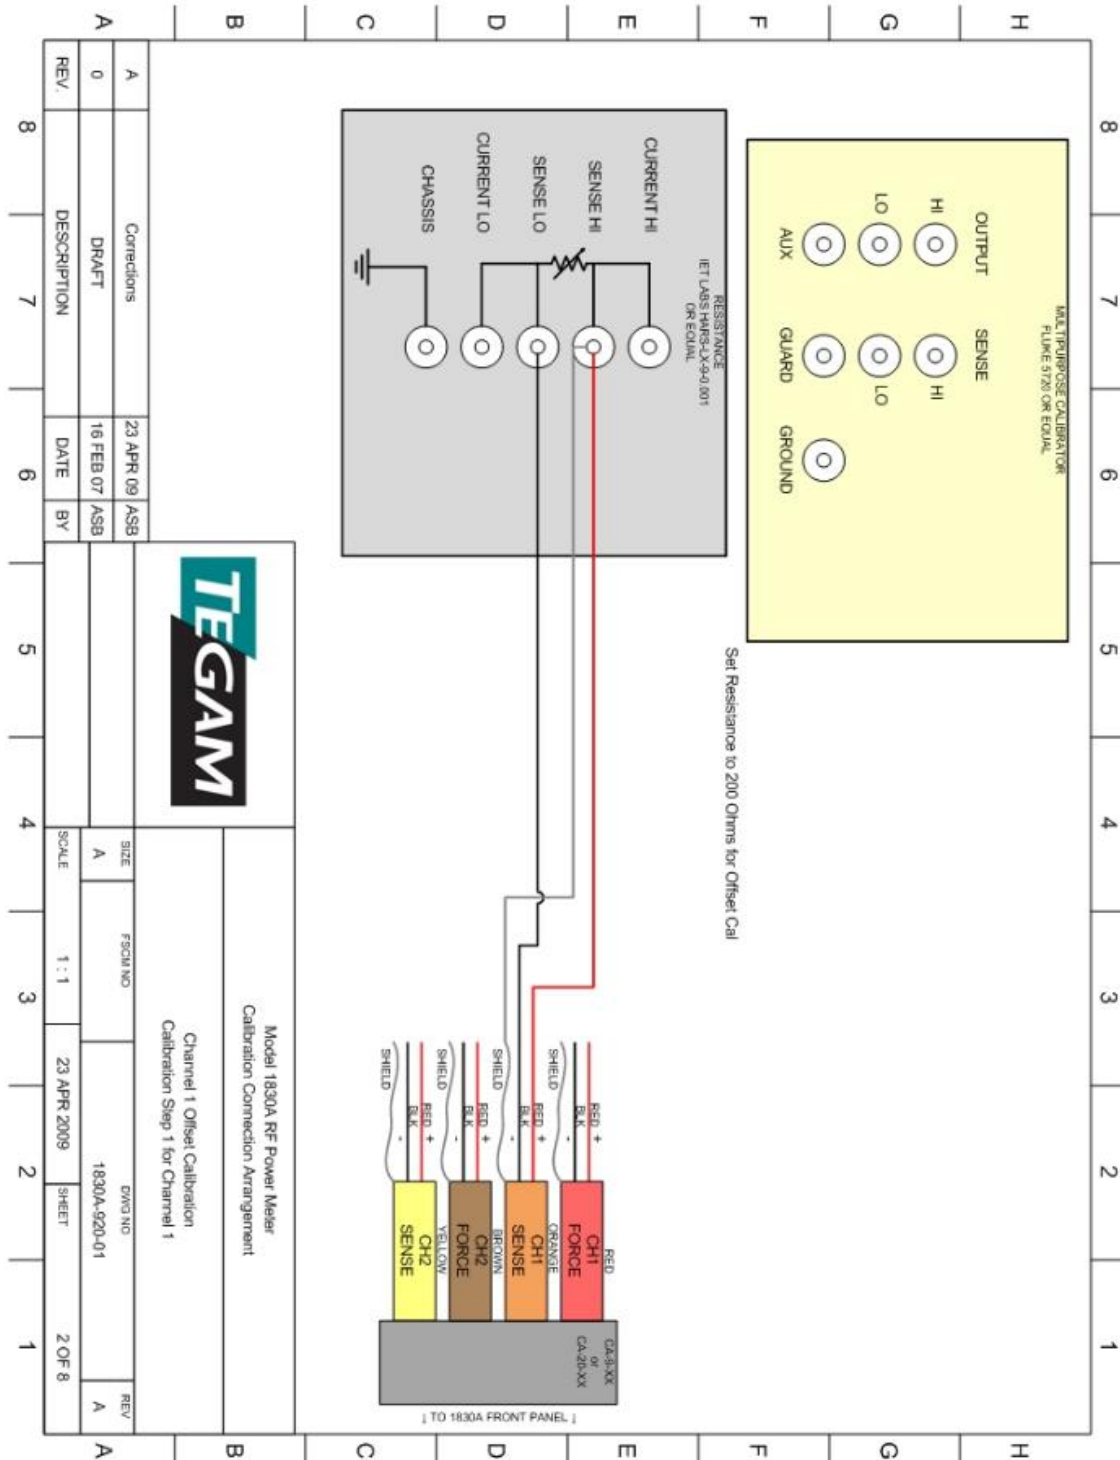

Figure 5.5 – Zero Servo Loop Connection Example Schematic
**Note:** Each calibration and diagnostic step allows the user to view a connection diagram. Figure 5.5 is an example of the diagram. This manual will not contain all the connection diagrams because they are available on the LXI webpage.